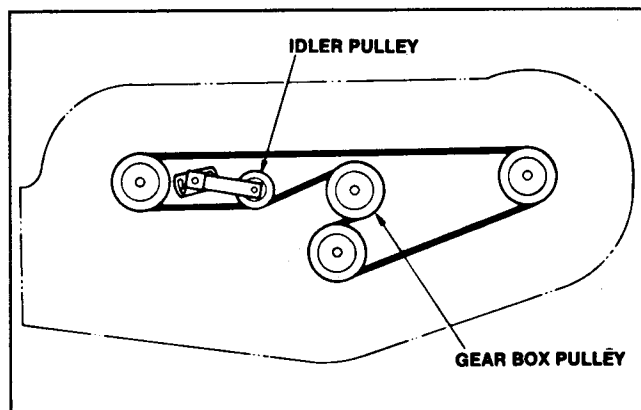

Figure 31
5. Install a new belt around the gearbox pulley, spindle pulleys, and idler pulley (Fig. 31).